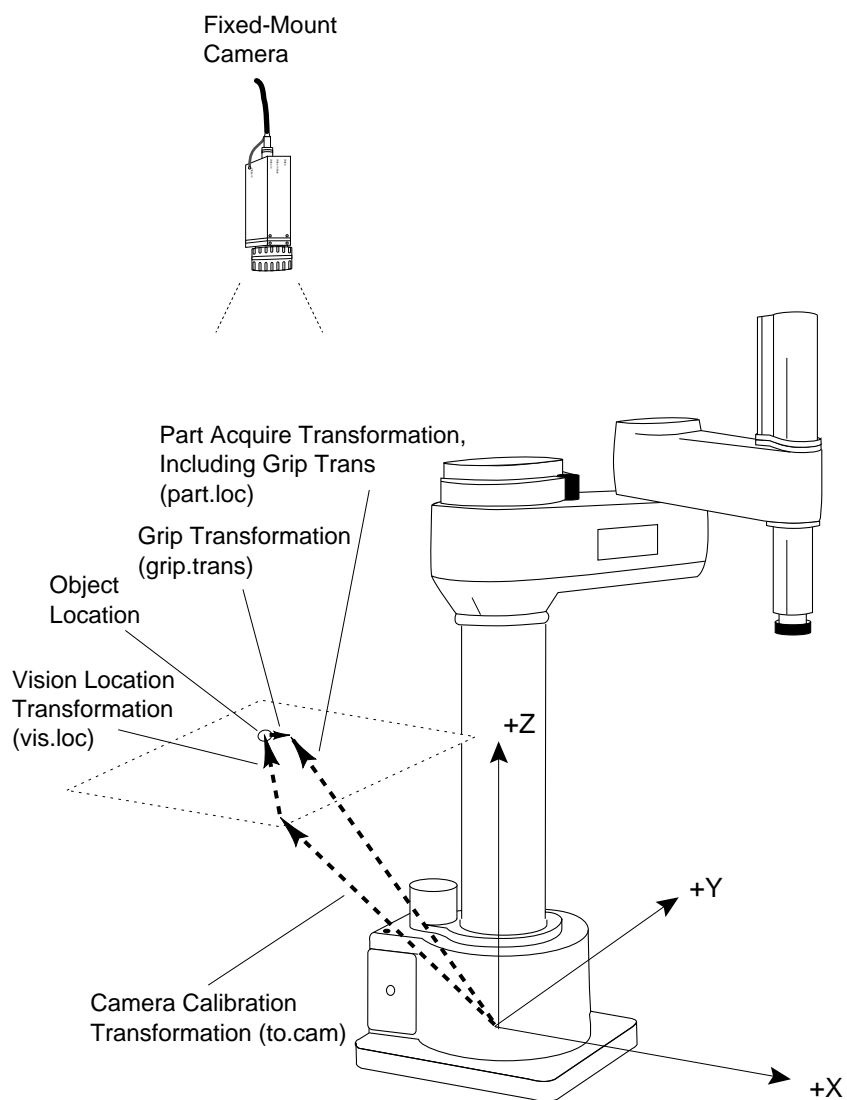

Figure 14-2. Fixed-Mount Camera Vision Transformation
**Figure 14-2** shows all the components of the vision transformation, plus the resulting compound transformation, **part.loc**.